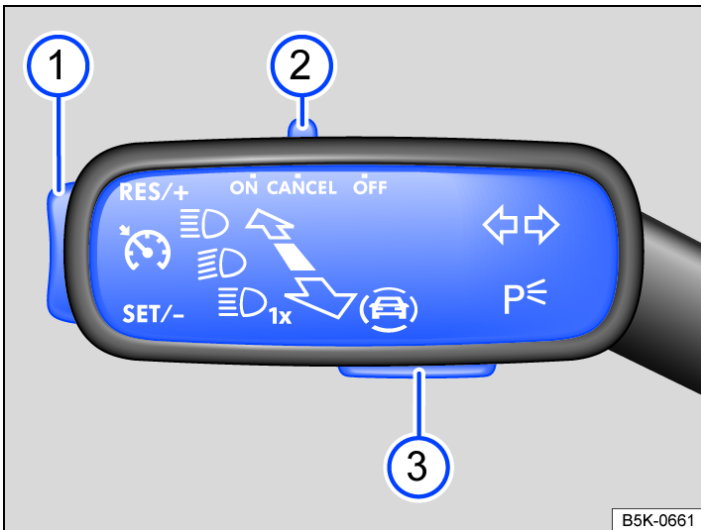

Fig. 1 On the left of the steering column: switch and buttons for operating the cruise control system.
— Move → Fig. 1 (2) switch to position **ON**.
— Press → Fig. 1 (1) button in the area **SET/-** while driving.